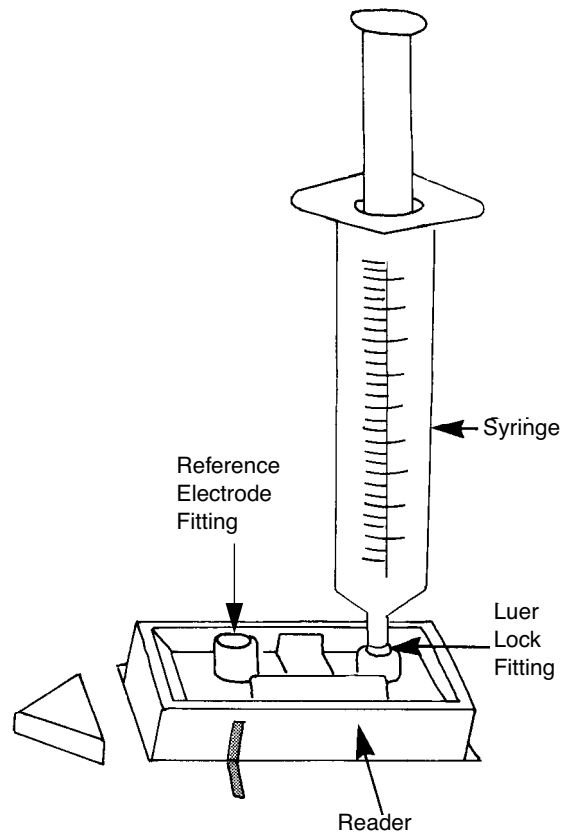

Figure 3-6: Syringe Attached to the Luer Lock Fitting on the Reader
- 1) Attach an empty 30-ml syringe to the Luer Lock syringe fitting on the top right of the Reader (Figure 3-6).